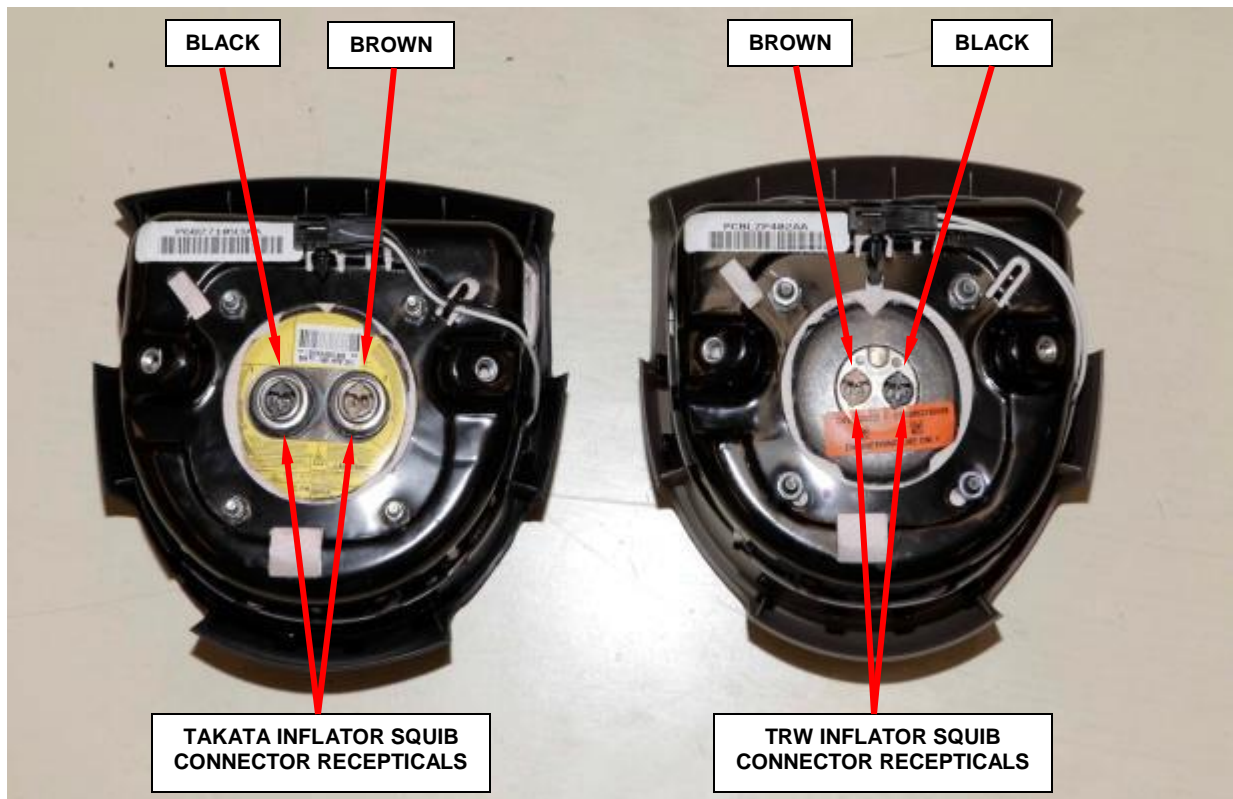

Figure 10 - Squib Connector Receptacles
24. Connect the two driver airbag squib connectors to the airbag inflator connector receptacles by pressing straight in on the connector. Be certain to engage each keyed and color-coded connector to the matching connector receptacle. Be certain that each connector is fully engaged in its receptacle by listening carefully for a distinct, audible click as the connector latches snap into place (Figure 10).